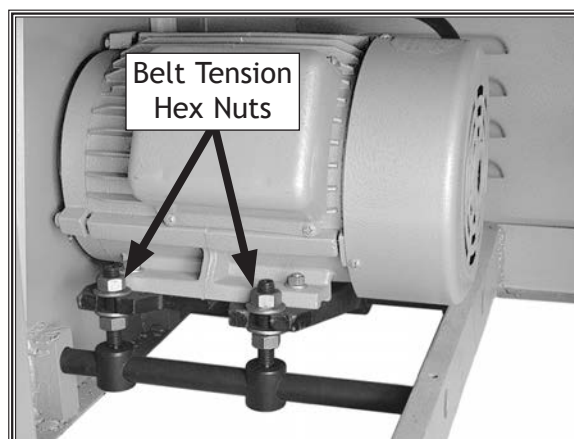

Figure 45. Front cabinet cover removed to access motor.
3. Remove front cabinet cover to access motor, as shown in **Figure 45**.
5. To adjust V-belt tension, loosen top belt tension hex nuts (see **Figure 45**), then adjust bottom hex nut to raise or lower motor.